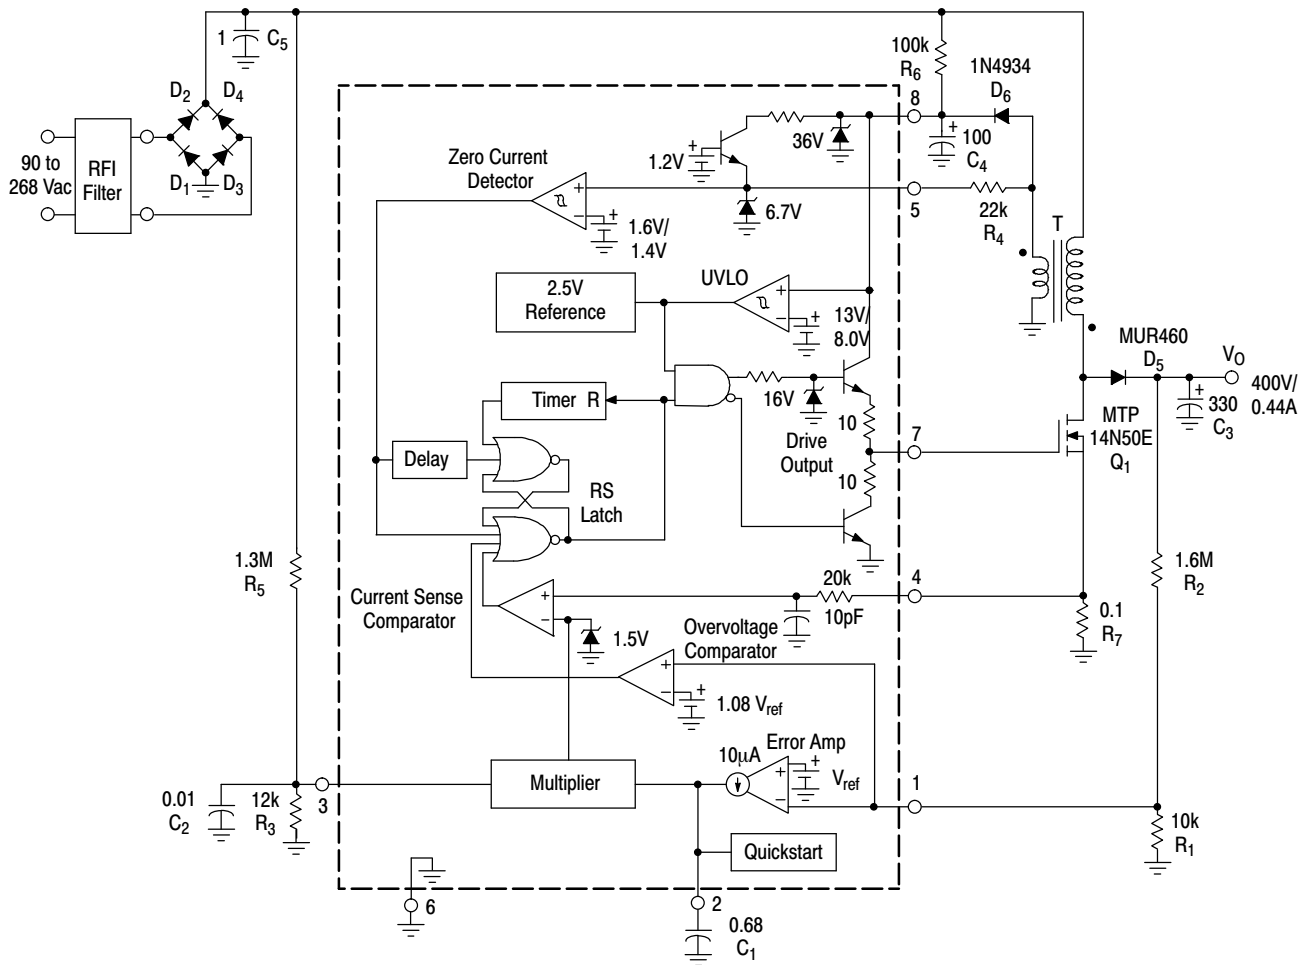
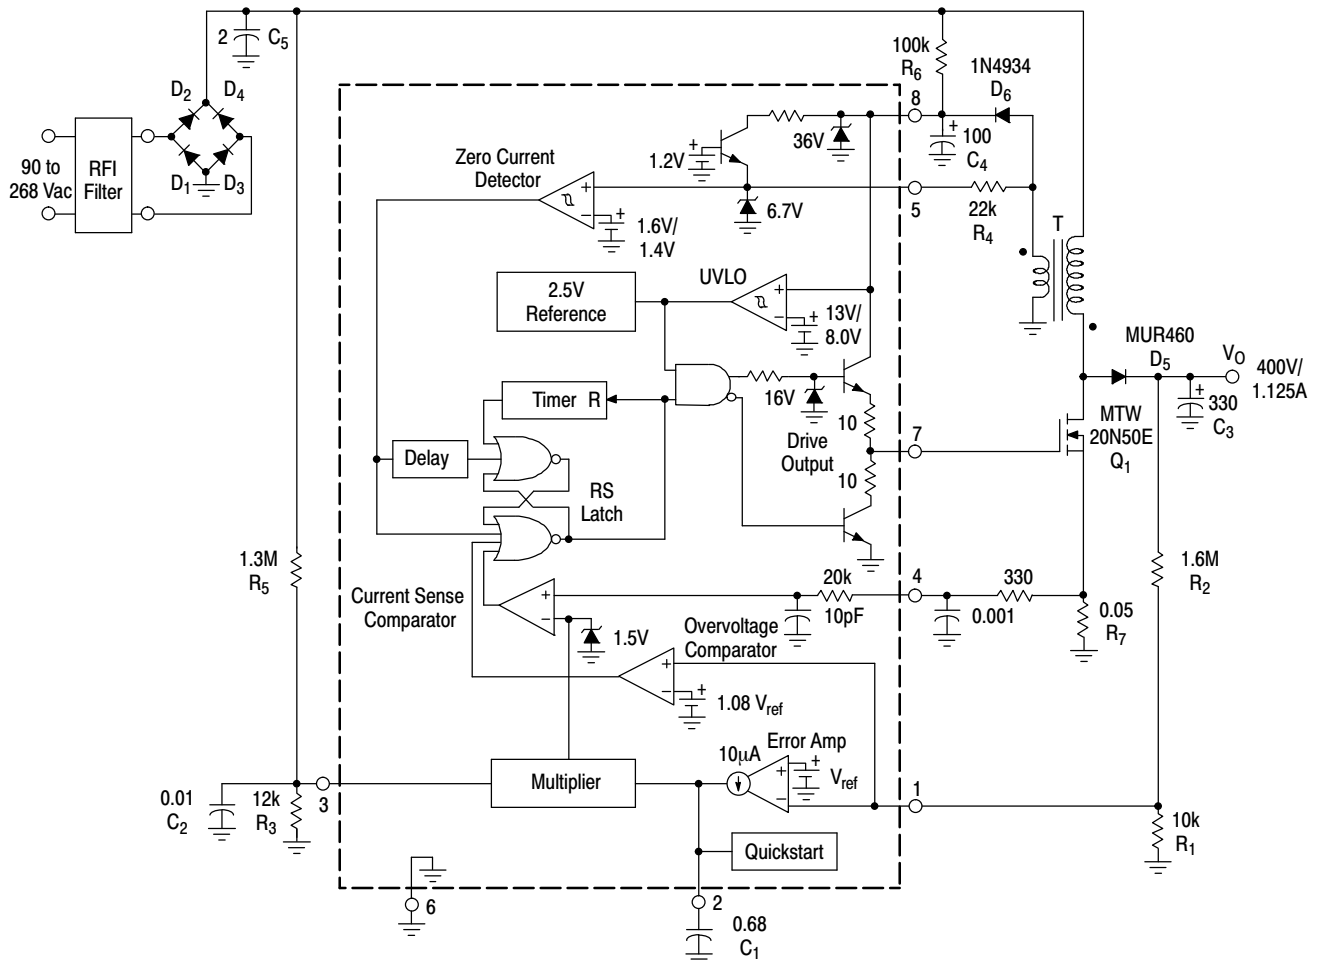

Figure 21. 175 W Universal Input Power Factor Controller
Figure 22. 450 W Universal Input Power Factor Controller
0.998 at nominal line. Figures 20 and 21 are universal input preconverter examples that operate over a continuous input voltage range of 90 Vac to 268 Vac. Figure 20 provides an output power of 175 W (400 V at 440 mA) while Figure 21 provides 450 W (400 V at 1.125 A). Both circuits have an observed worst-case power factor of approximately 0.989. The input current and voltage waveforms of Figure 20 are shown in Figure 22 with operation at 115 Vac and 230 Vac. The data for each of the applications was generated with the test set-up shown in Figure 24.
An RFI filter is required for best performance when connecting the preconverter directly to the ac line. The filter attenuates the level of high frequency switching that appears on the ac line current waveform. Figures 19 and 20 work well with commercially available two stage filters such as the Delta Electronics 03DPCG5. Shown above is a single stage test filter that can easily be constructed with four ac line rated capacitors and a common-mode transformer. Coilcraft CMT3-28-2 was used to test Figures 19 and 20. It has a minimum inductance of 28 mH and a maximum current rating of 2.0 A. Coilcraft CMT4-17-9 was used to test Figure 21. It has a minimum inductance of 17 mH and a maximum current rating of 9.0 A. Circuit conversion efficiency  $\eta$  (%) was calculated without the power loss of the RFI filter.